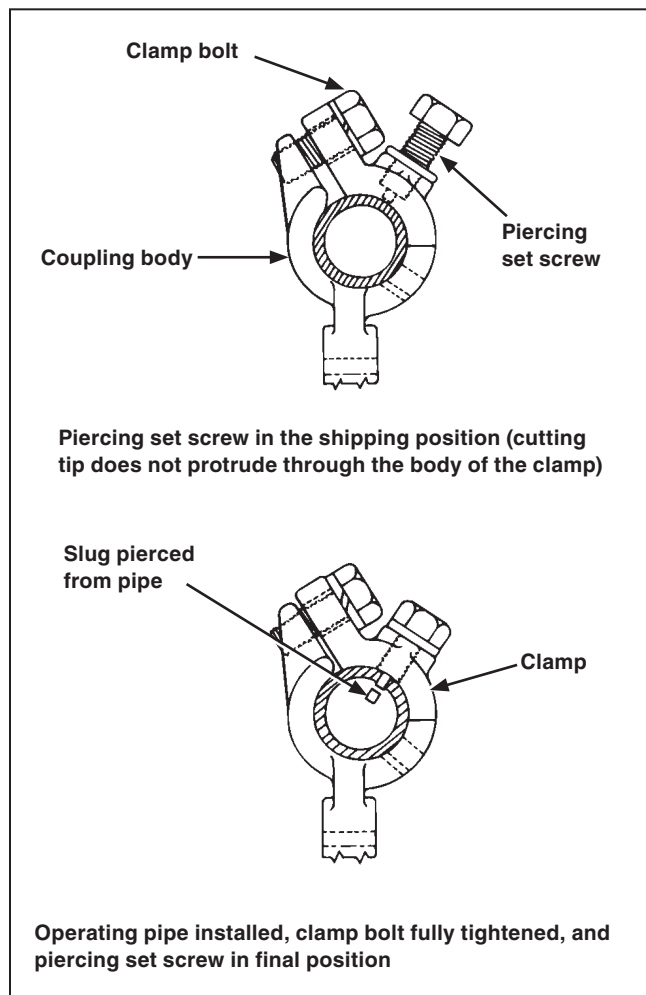

Figure 11. Installing the pipe couplings.
- Make sure the clamp bolt(s) are tight. See Figure 11.